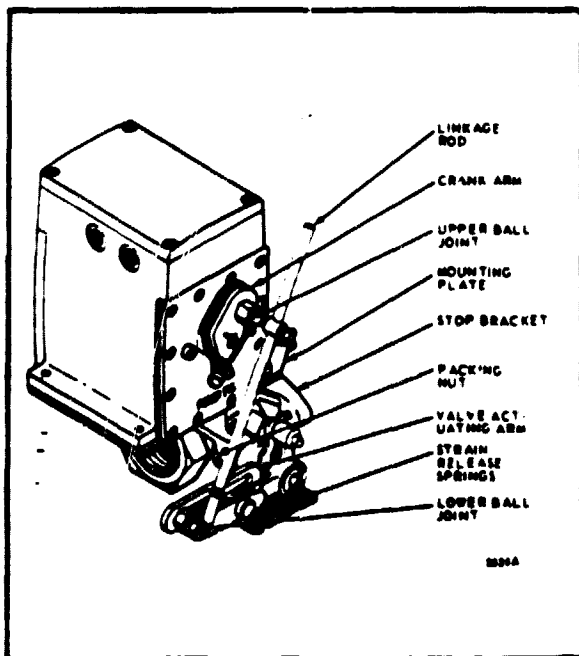

FIG. 5-TYPICAL COMBINATION OF VS1E, MODUTROL MOTOR, AND Q100B LINKAGE ASSEMBLY.
#### INSTALLING MODUTROL MOTOR AND Q100B LINKAGE ON VS1E (SEE FIG. 5):
4. Install valve actuating arm as shown in Fig. 5, and adjust as desired.
## MODUTROL MOTOR WITH Q100B LINKAGE AND VS1E (SEE FIG. 5):